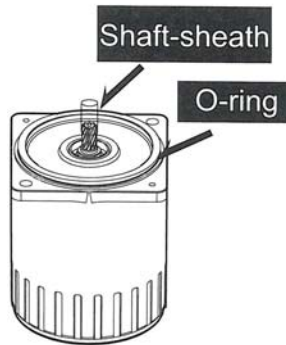

Figure 14.
2. Take off the O-Ring from the seal cap, and loop it flatly around the flange or motor bracket. (Figure 14)
3. Turn the motor upwards and take off the shaft-sheath as Figure 14.